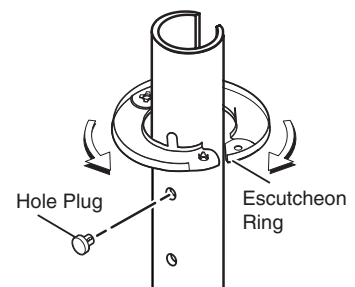

Figure 8. Fit Ring and Hole Plugs.
- c. Open the escutcheon ring and, with the tabs uppermost, fit the ring around the slotted pipe (see figure 8), then close it. Slide the ring up until it is snug against the ceiling tile.